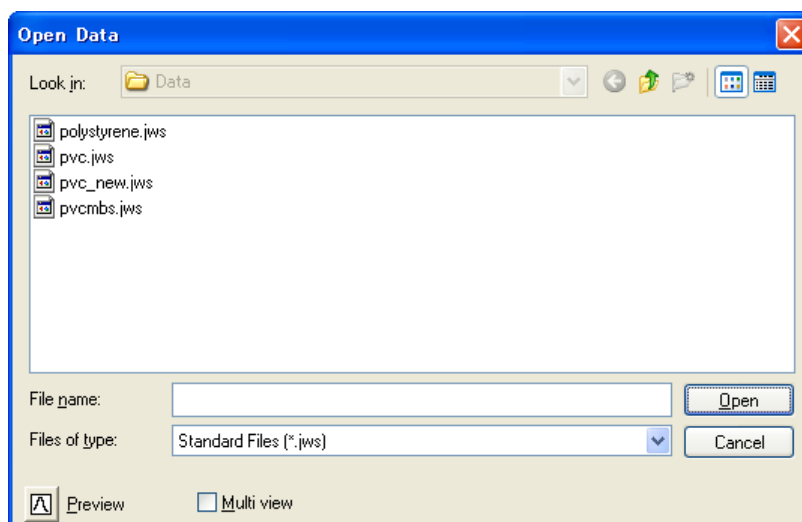

Figure 2.6 [Open Data] dialog box
- 1) Select [File] - [Open...] from the main menu to display the [Open Data] dialog box (Fig. 2.6).